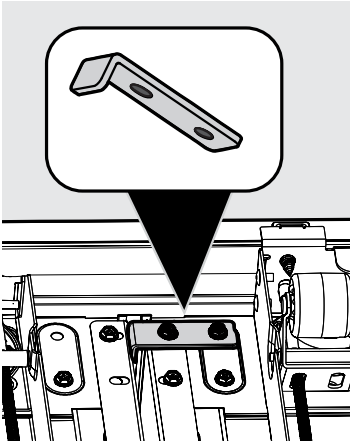

Fig. 8
4. With the refrigerator still on its back, use a 9/16" nut driver to remove two 4H bolts and fasten the 10H L-Bar (Fig. 8). **Note:** The short flange on L-Bar should be facing upward toward the top of the refrigerator.